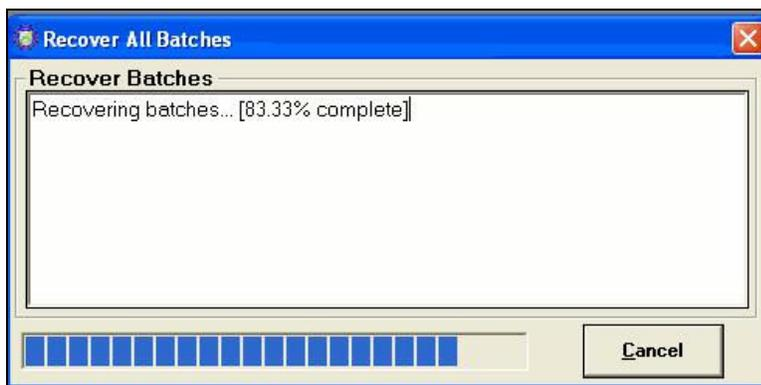

Figure 3.34
15. Click **'Yes'** to accept the batch recovery function. The following window appears and displays the percentage complete (Figure 3.34)